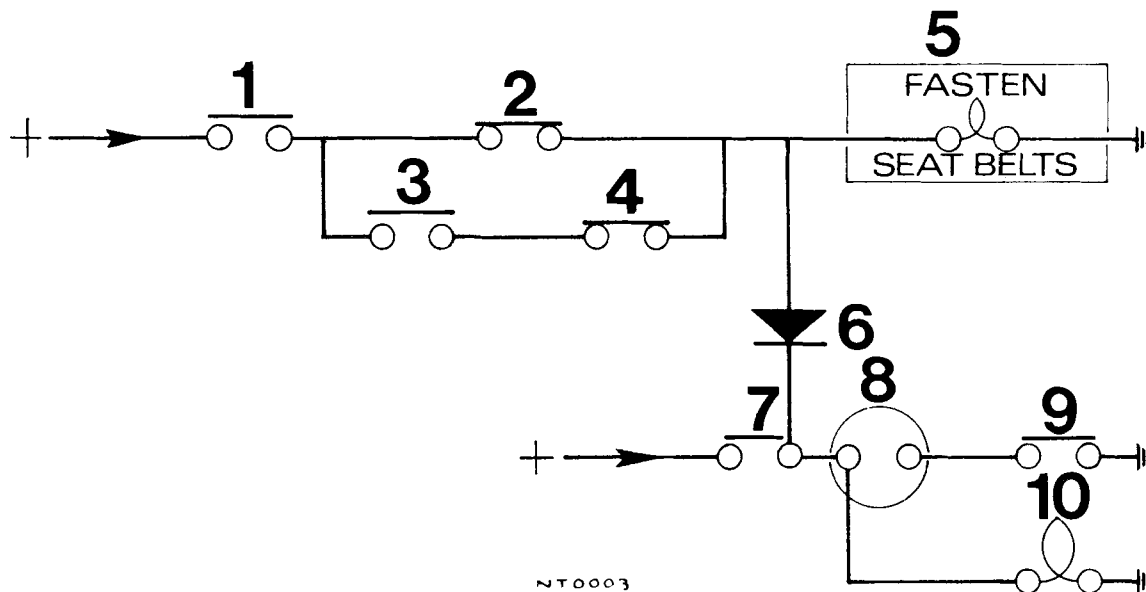

Fig. 4. Schematic Wiring Diagram—Seat Belt Warning Device—U.S.A. Markets
From Fig. 4 below it can be seen that a light (5) on the facia will illuminate and a buzzer (8) will sound if the ignition switch is turned on and a gear selected without the driver's seat belt switch (2) being actuated through use of the seat belt.